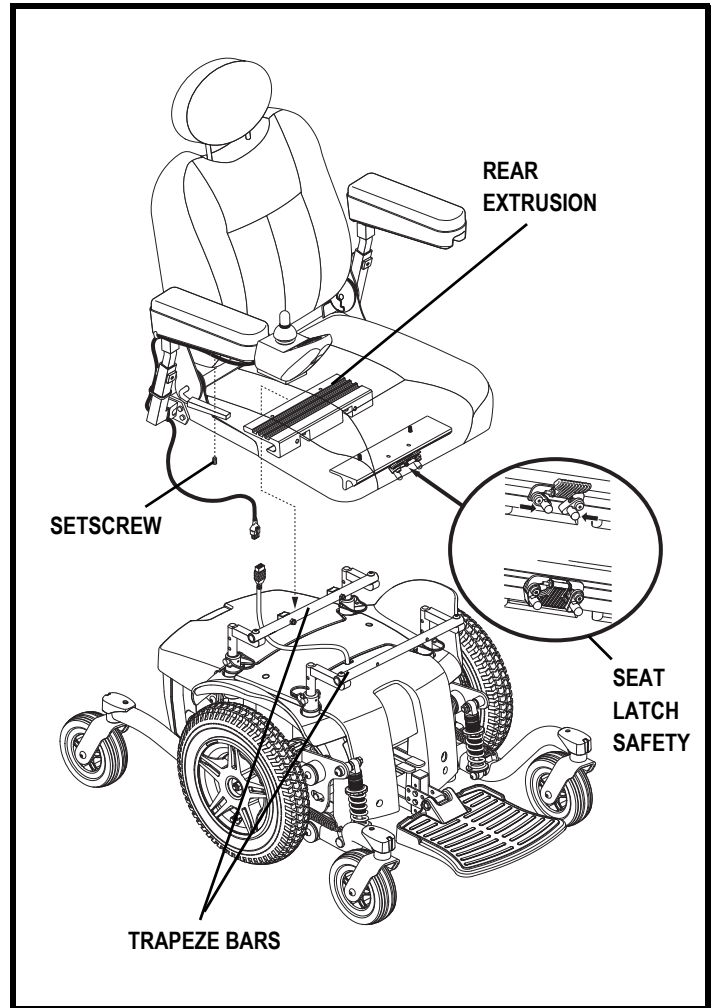

Figure 11. Universal Mounting System
It may be necessary to install the seat either prior to initial operation or after transporting your power chair. Most seats are attached to the power base with the Universal Mounting System (UMS). The UMS consists of universal parts that may be attached to any medium-back or high-back seat, regardless of seat width or seat depth. The two main components are aluminum extrusions mounted to the seat base. These extrusions attach to a pair of trapeze bars that are mounted to the power base. See figure 11.
1. Tilt the seat back and slide the rear extrusion onto the rear trapeze bar. See figure 11.
4. Install the controller into one of the armrests. Tighten the setscrew. See figure 11.
5. Lift the armrest straight up, then route the controller harness so that it cannot be pinched in the seat hinge as shown in figure 11.
7. Lift the armrest straight up, then route the controller harness so that it can not be pinched in the seat hinge. See figure 11.